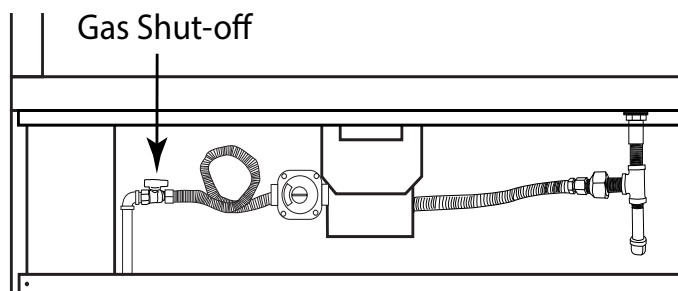

Fig.1 Close up view of inlet gas connection with shut-off valve.
**GAS LINE:** The gas line must have a predetermined location to enable it to be installed. Fig. 1 shows one example of an inlet gas line with a gas shut off at the fireplace. This allows a technician to shut the inlet gas supply OFF and remove the burner for servicing. Ensure you follow the local and state gas codes per your installation.
3. The primary gas shut-off (supplied) will require a ½" male flared fitting to enable connection of the stainless steel flex gas line supplied with the fireplace (See Fig. 1 page 6).